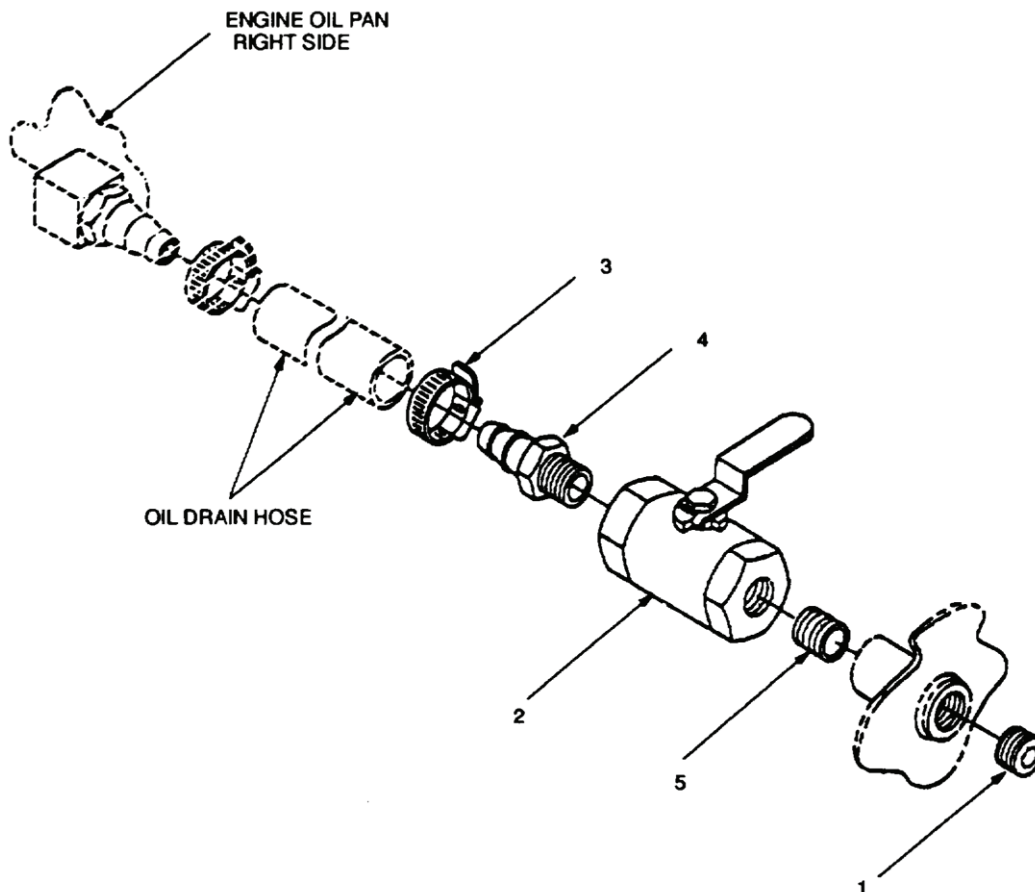

Figure 1. Oil Drain Line.
3. Remove plug (Figure 1, Item 1), open drain valve (2), and drain engine oil into suitable container.
4. Loosen clamp (3) and remove oil drain hose from adapter (4).
5. Remove drain valve (2) from skid fitting.
6. Remove adapter (4) and pipe fitting (5) from oil drain valve (2).
1. Install adapter (Figure 1, Item 4) and pipe fitting (5) in oil drain valve (2).
2. Install oil drain valve (2) on skid fitting.
3. Install oil drain hose on adapter (4). Secure with clamp (3).
4. Ensure oil drain valve (2) is closed. Install plug (1) and service engine oil (WP 0006, Lubricating Oil).